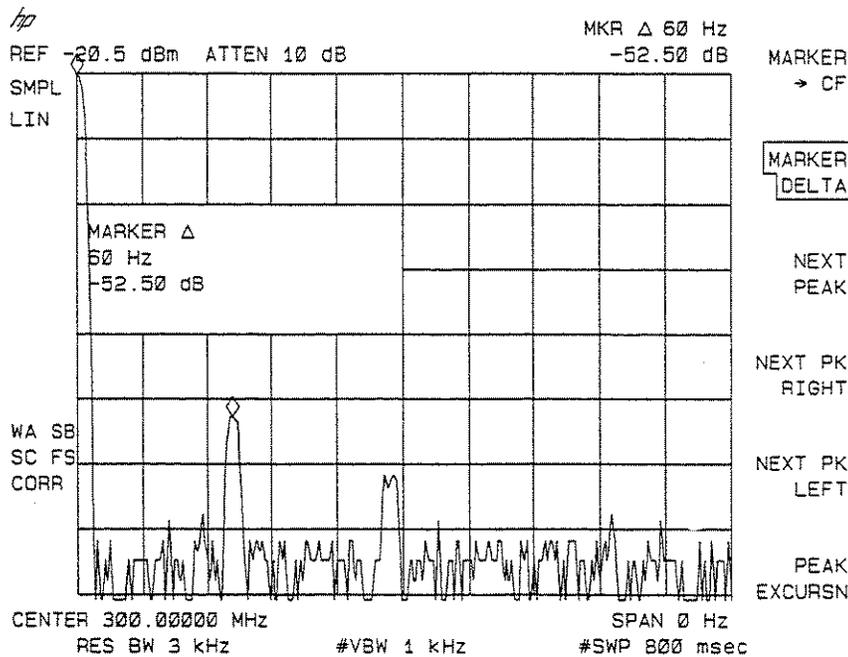

Figure 2-29. Using the FFT Function
10. A marker is automatically placed on the carrier at the 0 Hz reference (at the left edge of the graticule). Press **MARKER DELTA** and turn the knob to the modulation to determine the frequency and amplitude difference from the carrier. See Figure 2-29.
The results of the FFT function are displayed on the analyzer screen. The carrier appears at the left edge of the graticule with the modulation sidebands, and any distortion appearing along the horizontal graticule. The left edge of the graticule represents 0 Hz relative to the carrier. The right edge represents the maximum FFT frequency calculated (250 Hz), which is 200 divided by the sweep time. (See Figure 2-29.) The amplitude relationships among the carrier, sidebands, and distortion components are the same as they would be if the components were displayed with swept-tuned operation in log mode, 10 dB per division.